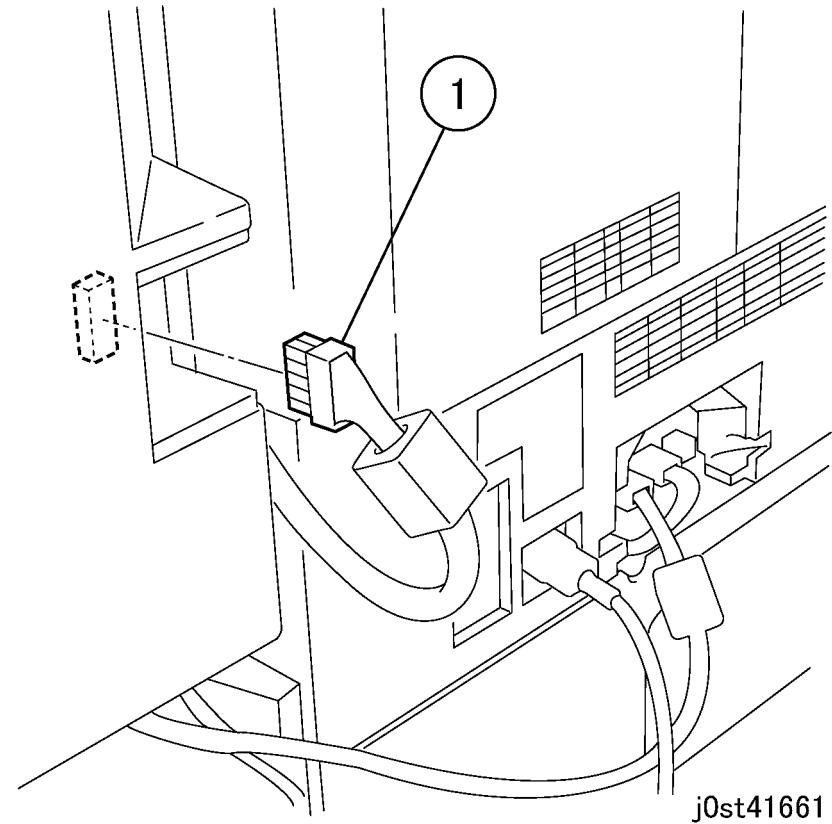

Figure 2 Removing the connector (j0st41661)
2. Remove the connector. (Figure 2)